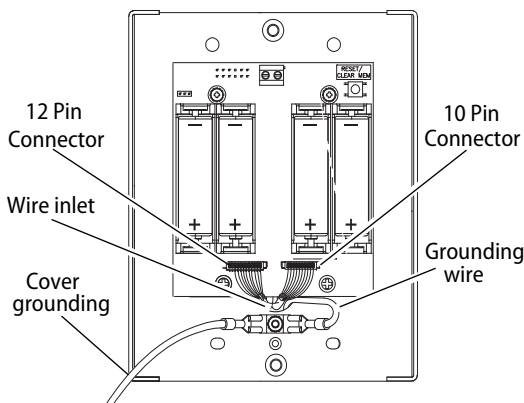

Figure 10 Wire connections to circuit module
- 2 Connect the pins and grounding wire as shown in Figure 10.